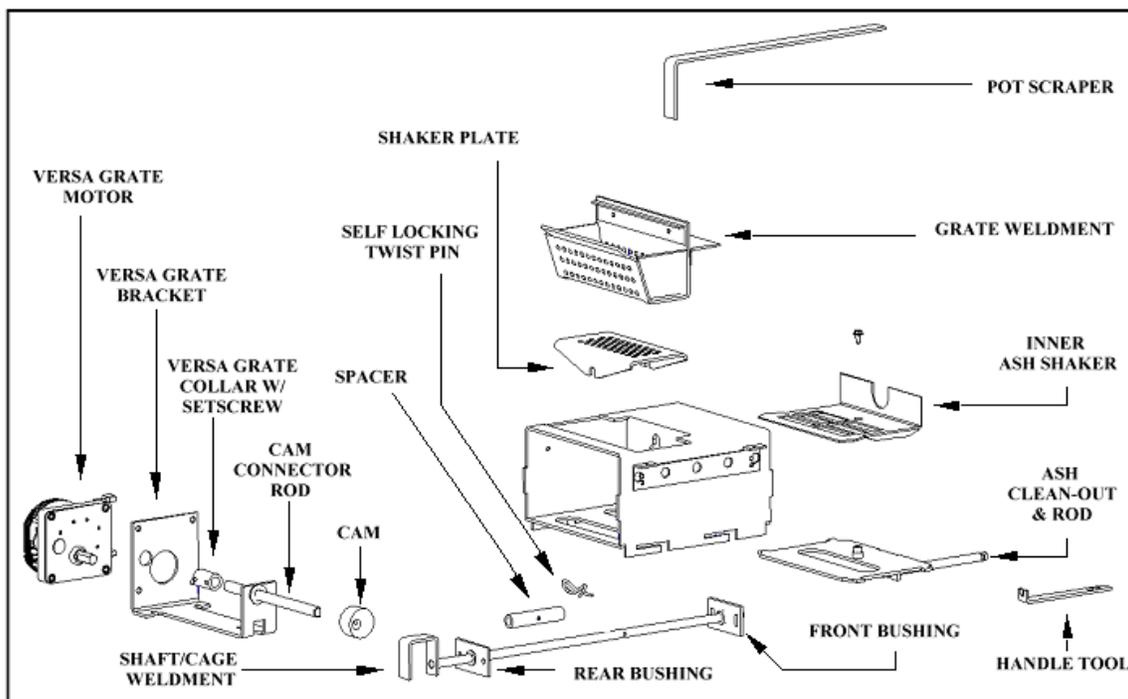
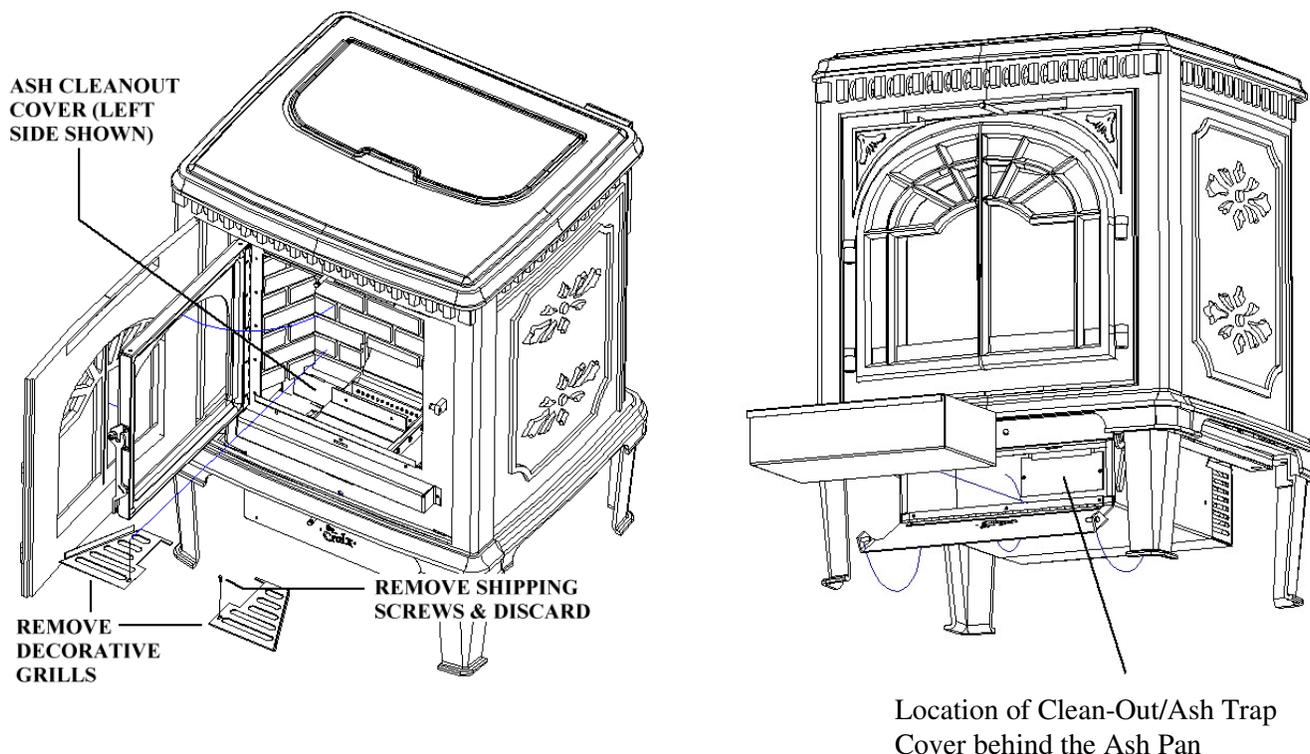
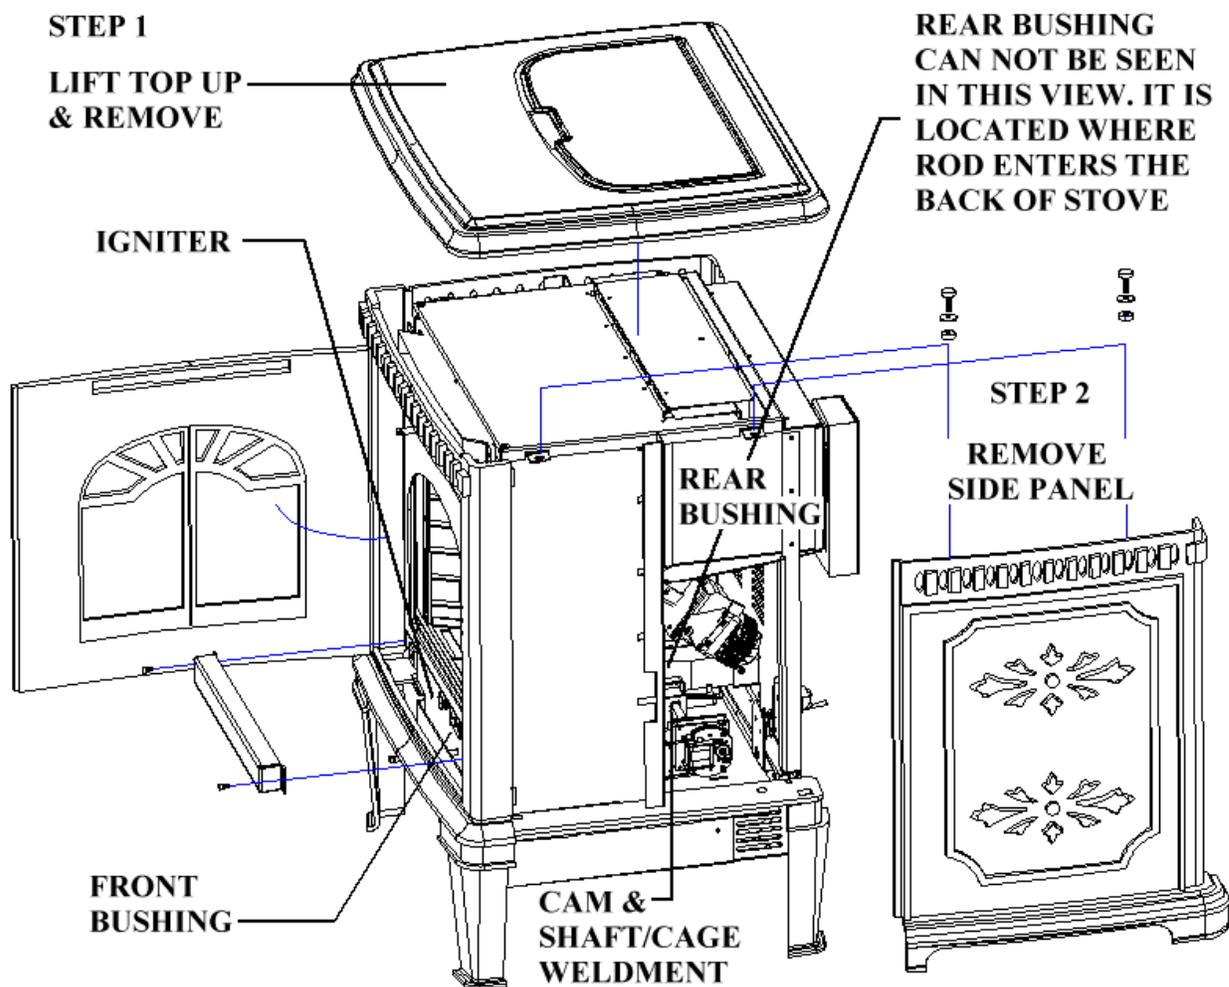

Figure 6
Figure 8
Figure 11
**The Versa Grate System** (see Figure 6 below). The benefit of this feature is that the stove can operate for longer periods of time, with most
First, let's become familiar with the burn system in a St. Croix Pellet stove. Remember, cleaning frequency may change dramatically from one fuel to another. Pellets with high ash content or that have increased amounts of impurities or high moisture content. Every St. Croix Pellet stove model will have the same system as shown in figure 6 below. There is a 2-piece burnpot. The top Part is called the **"Grate Weldment"**. This sits on top of the **"Shaker Plate"**. This in turn sits on top of the **"Shaft/Cage Weldment"** and is held in place with the **"Spacer"** & **"Self Locking Twist pin"**. The Shaft/Cage weldment is moved towards the front of the stove and then towards the back of the stove by the **"Cam"** that is connected to the **"Versa Grate Motor"**. This motion is constant, while the stove is in operation. The only parts that may need to be removed for cleaning purposes during the Daily or Periodic Maintenance are the **"Grate weldment"** and the **"Shaker Plate"**. This is to check the holes in the burnpot system to see if they are plugged.
1. Check Grate Weldment and Shaker Plate (See figure 6) to determine if holes are plugged. Clean as needed. With proper precautions the grate may be partially cleaned while the stove is hot. Follow these steps:
2. Remove ash buildup under the grate bottom daily or as frequently as needed. Clean the ashes out from under the burn pot by pulling the Ash Cleanout Rod in and out several times (see Fig. 6) Use the Rod Pull Tool with the Ash Cleanout Rod. This tool is hanging on a screw on the back of the stove; this provides a convenient location to keep the tool in reach and prevent it from getting lost.
2. The Hastings has 3 Ash Trap cleanouts. 2 are located below the rear brick panel. Remove covers and clean regularly. (See Figure 8 below) Be sure to clean both sides. Use scraper shown in figure 6 & 7 to scrape ash into ash pan. Use a vacuum (cold stove only) to thoroughly clean these areas. The other Clean-out is located behind the Ash Pan. (See figure 8 below)
3. Clean burn grate holes at least weekly. Remove the burn grate and use a small metal object to clean out plugged holes. (See fig. 6 on page 12.)
1. **Spring Shutdown.** After the last burn in the spring, cool the stove. Remove all pellets from the hopper and the auger. Thoroughly clean the burn grate, burn grate box, ash pan and ash traps behind the ash pan. (To locate the ash traps see Figure 8 on page 14)
- The Versa Grate System needs to be lubricated once a year with some High Temp Anti Seize to prevent the parts from “squealing”. (See figure 6 on page 12 as well). Add some Anti-Seize to the Cam and Rod at both bushings. To gain access to the Versa Grate System in the Hastings remove the cast iron top and side panel (see Fig 11). To locate the Rear Bushing assembly, follow the rod from the Shaft/Cage Weldment towards the front of the stove. The front bushing is located below the igniter in the front of the stove. Remove the ash lip cover as shown in figure 11.